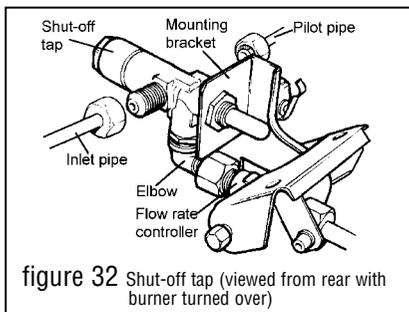

figure 32 Shut-off tap (viewed from rear with burner turned over)
10.8 To remove the shut-off tap (see figure 32)